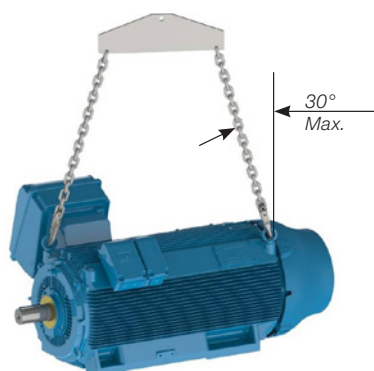

Figure 9 - Maximum resultant angle for horizontal HGF motors
- For HGF motors, as shown in Figure 9, the maximum resulting angle should not exceed 30° in relation to the vertical axis.